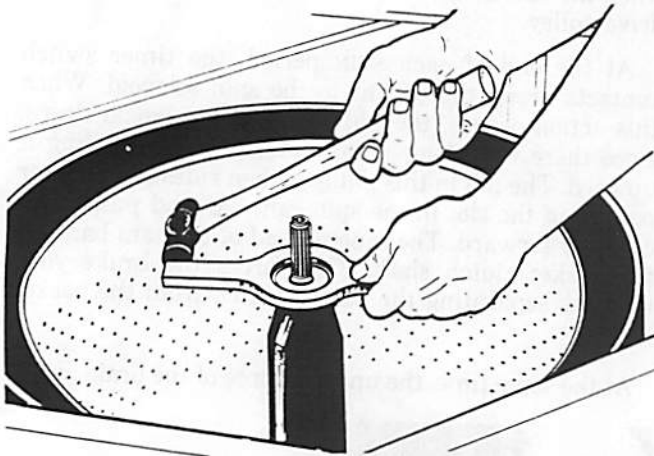
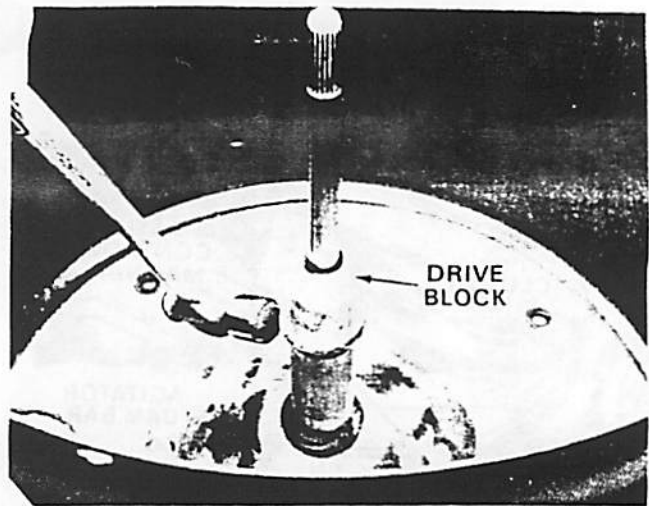

Fig. 15. Spanner nut removal.
Fig. 16. Drive block removal.
3. Using the spanner wrench as shown in Fig. 15, remove the spanner nut. Next use a screwdriver blade to expand the slot in the tapered basket drive block; this releases the drive block from the spin tube. It is at times easier to remove the wash basket and drive block as illustrated in Fig. 16. Now lay the washer on its front on a padded surface, remove the belt from the motor pulley and the pump from the gearcase.